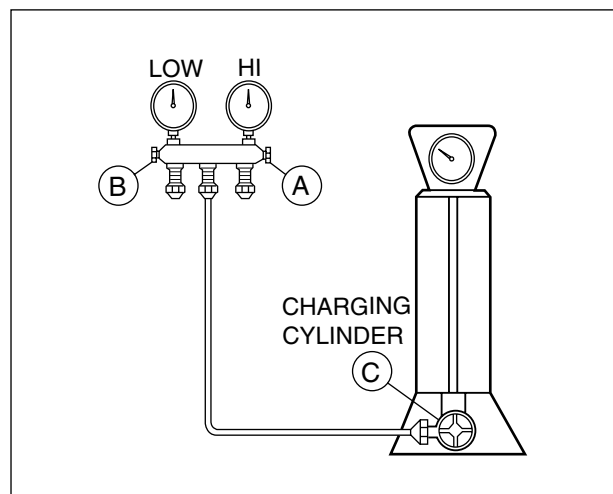

Figure 22B-Charging
- 2) Connect the charging cylinder as shown in Figure 22B.